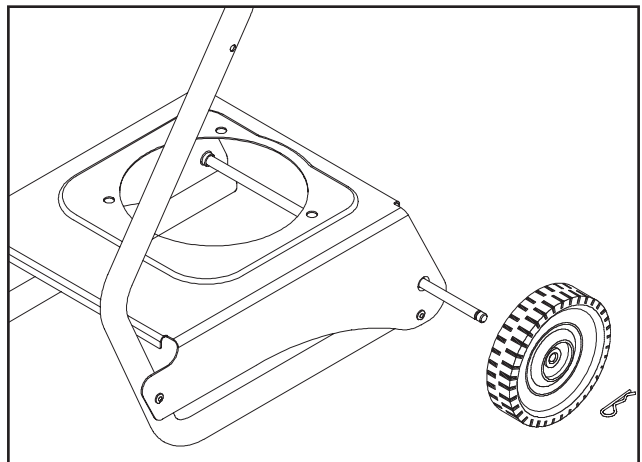

Figure 1
Refer to Figure 1 and install the wheel kit as follows:
2. Slide axle through holes in frame, as shown in Figure 1.
4. Retain wheel on axle stud with retaining pin. See Figure 1.